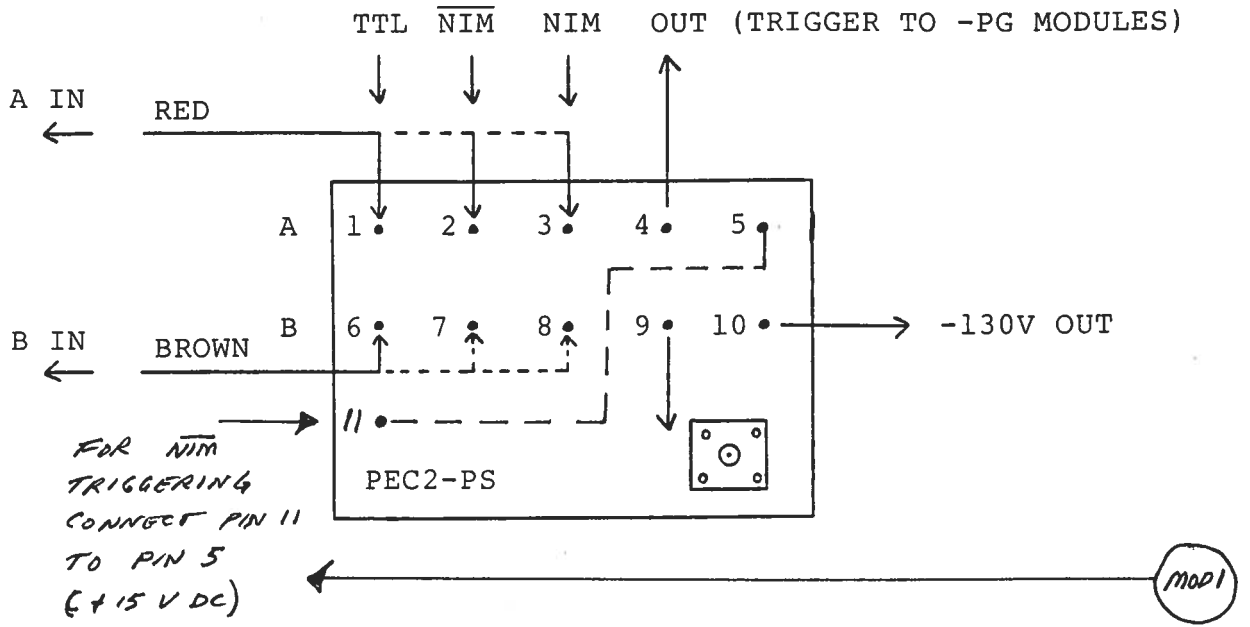
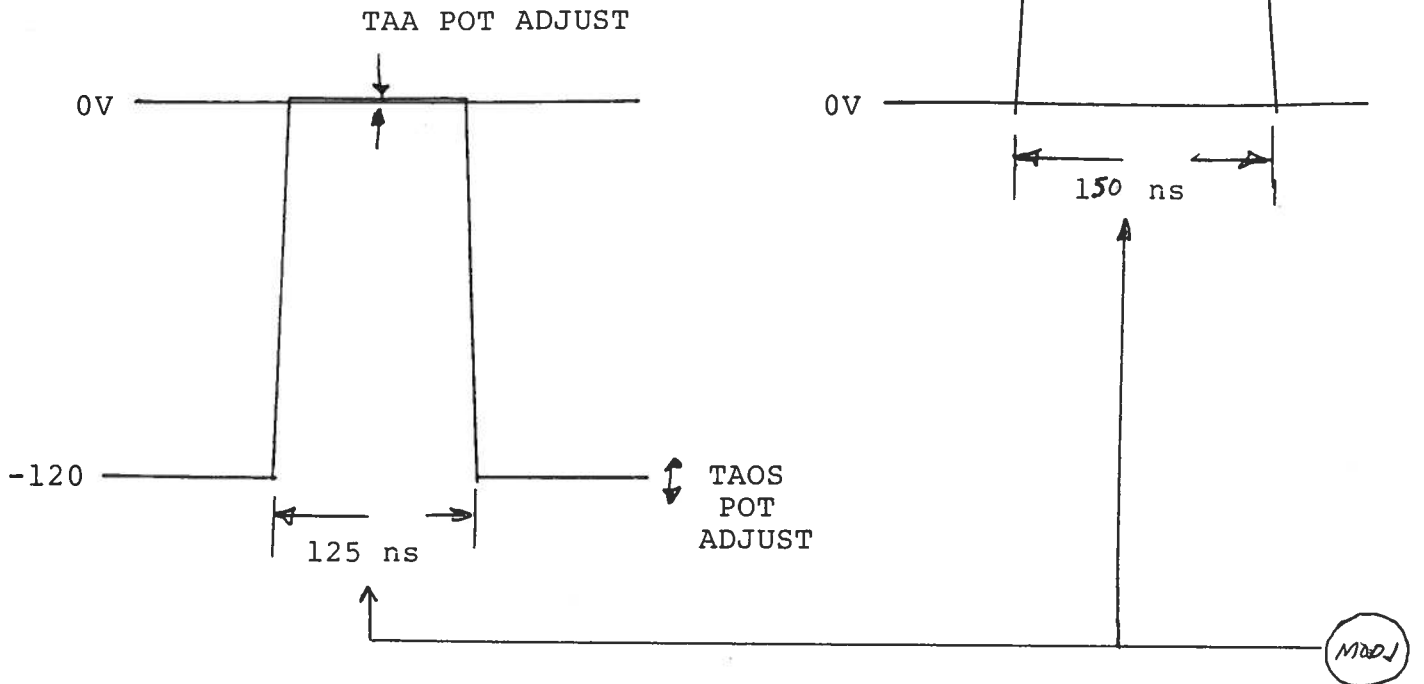
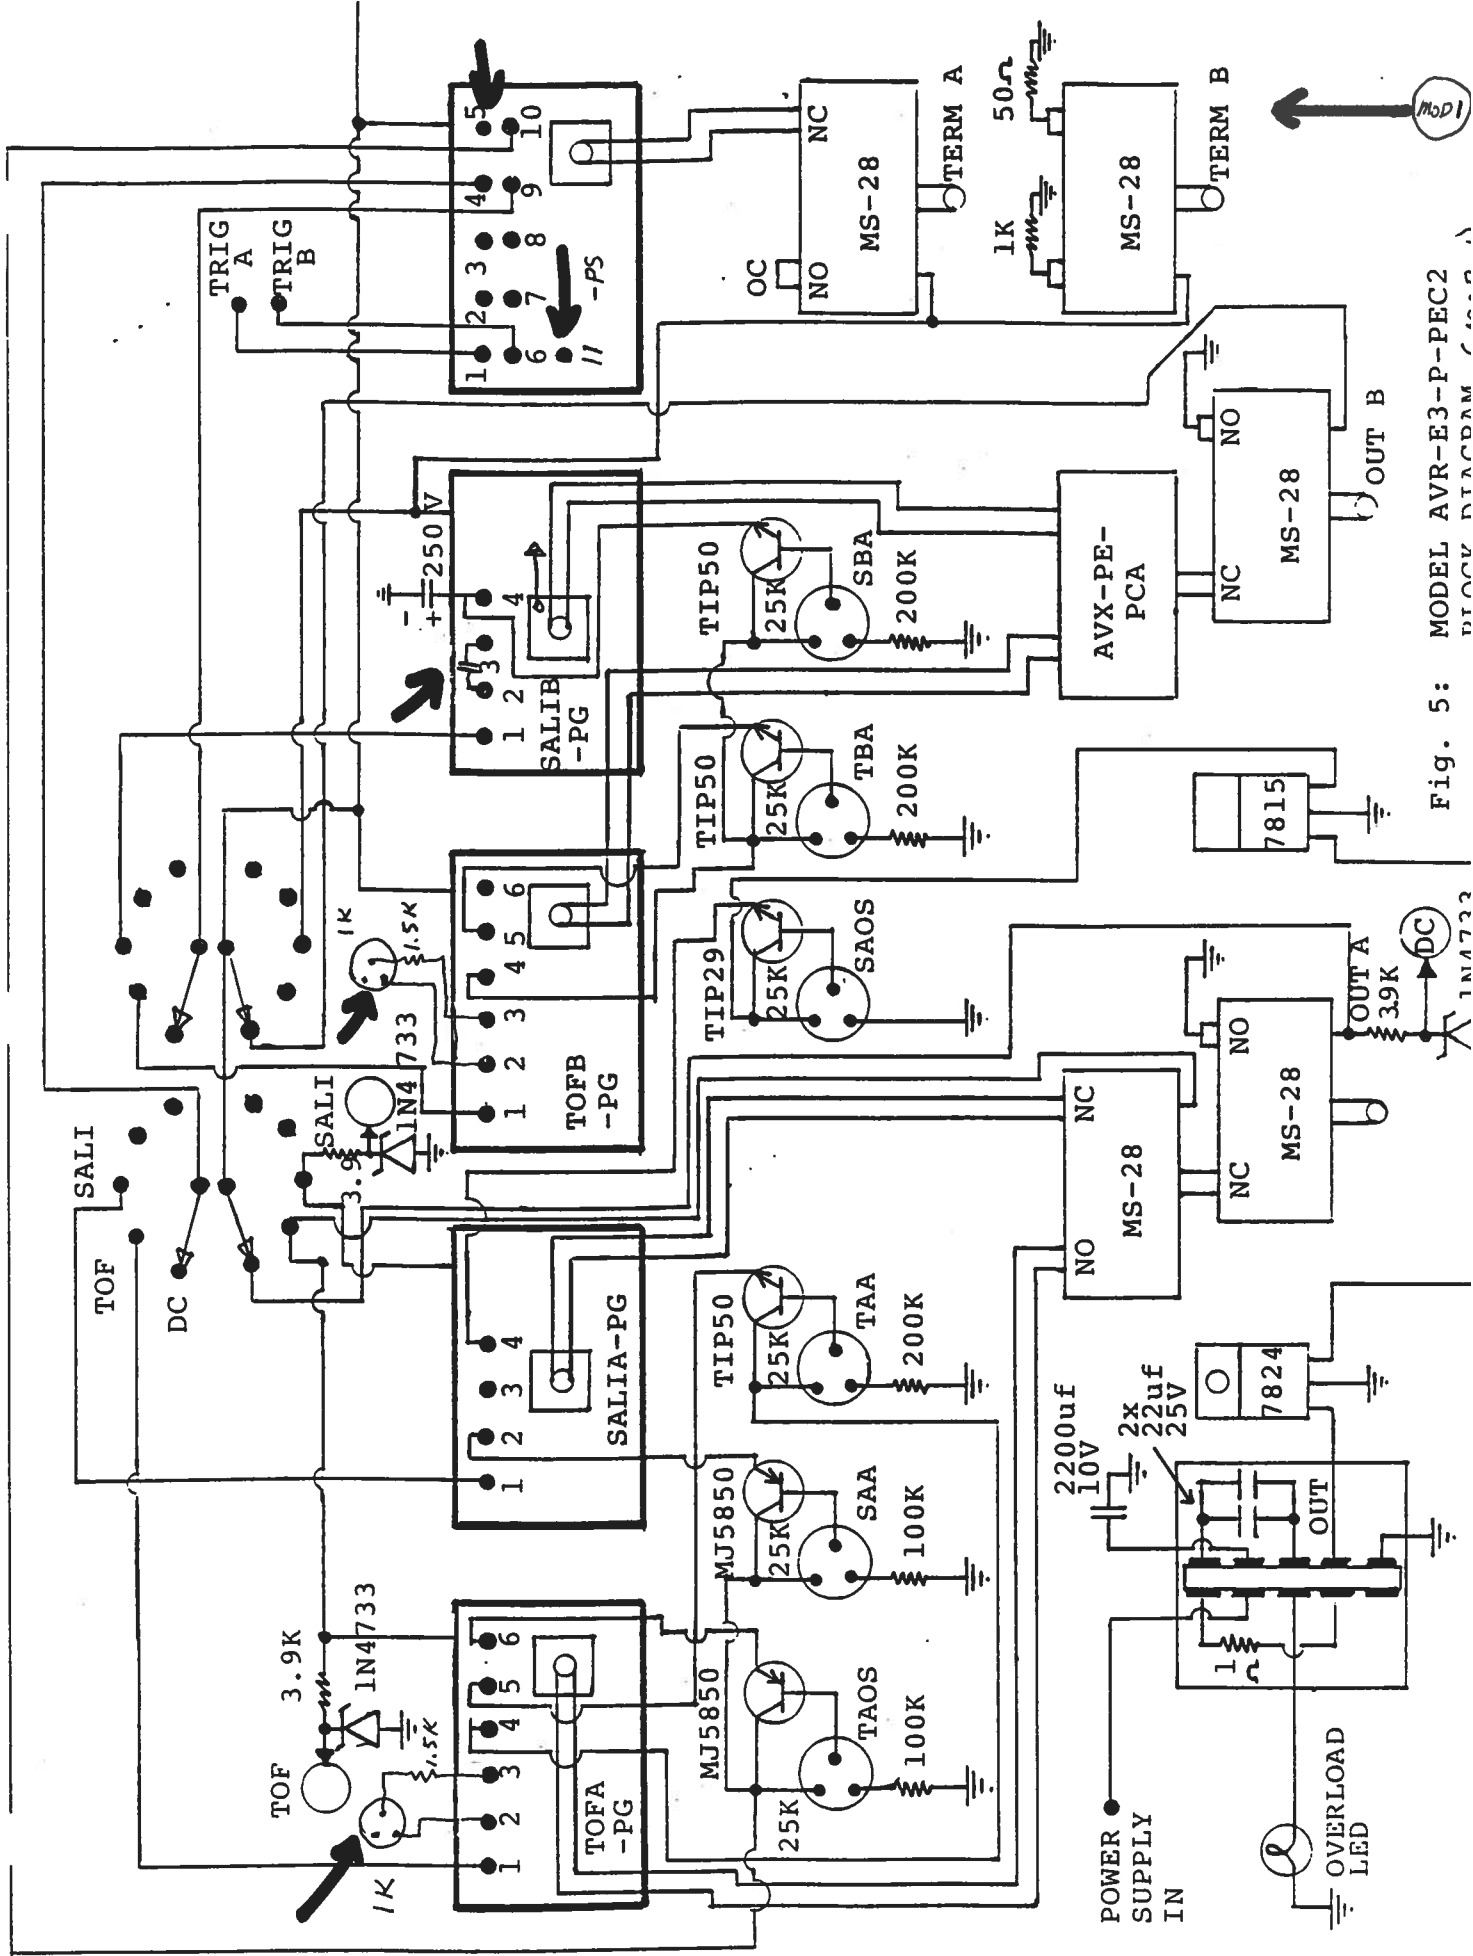
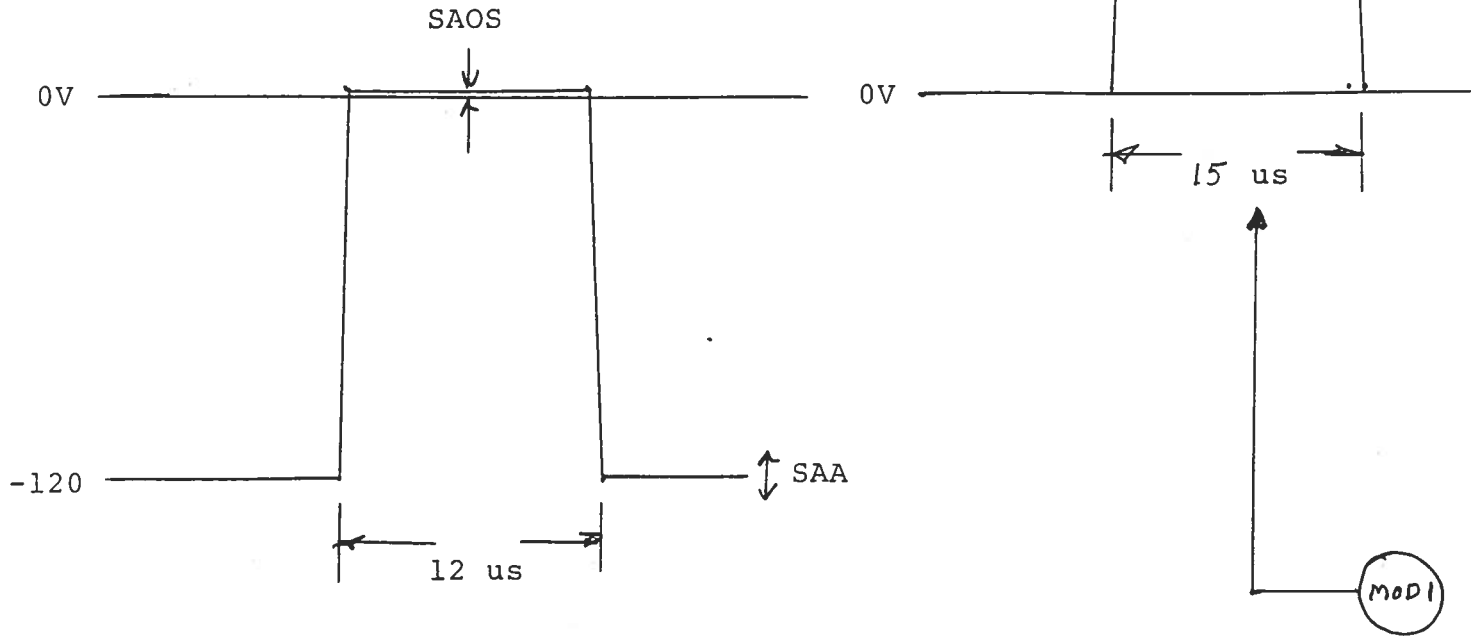

Fig. 3: PEC2-PS MODULE CONNECTIONS FOR TTL, $\overline{\text{NIM}}$ AND NIM TRIGGERING
Fig. 4
Fig. 5: MODEL AVR-E3-P-PEC2
Fig. 6
- 1) The arrangement shown in Fig. 1 may be used to check the basic waveforms using an oscilloscope. Note that at the time of shipping, the unit is wired to trigger from TTL input pulses (50 Ohm input impedance). To trigger from NIM or $\overline{\text{NIM}}$ inputs it is necessary to change the solder connections to the -PS module as shown in Fig. 3 (see Fig. 5 also).
- 4) With the front panel selector switch in the TOF position the OUT SMA connectors provide the waveforms shown in Fig. 4. The one turn TAA, TAOS and TBA locking pots (see Fig. 5) are accessible in the interior of the instrument to provide the amplitude adjustments shown in Fig. 4. CAUTION: Potentials as high as 140 Volts DC are employed and exposed in the interior of the instrument (see Fig. 5). The rear panel TOF banana connector is at a potential of +5 Volts (to $R_L > 1K$) when the instrument is operating in the TOF mode.
- 5) With the front panel selector switch in the SALI position, the OUT SMA connectors provide the waveforms shown in Fig. 6.
As with the TOF mode, the one turn SAA, SAOS or SBA locking pots (see Fig. 5) are provided in the interior of the instrument to achieve the amplitude adjustments shown in Fig. 6. The rear panel SALI banana connector provides +5 Volts (to $R_L > 1K$) when the instrument is operating in the SALI mode.
- (1) ON-OFF Switch. Applies prime power to all stages.
- (2) MODE Switch. 3 position switch controls nature of output signal at rear panel SMA OUT connector. In the DC position, the center conductor of the rear panel SMA OUT connector is fixed at ground potential by an internally controlled coaxial shorting switch. In the TOF position the OUT SMA connectors provide 125 ns wide 120 Volt pulses of the type shown in Fig. 4. When in the SALI position the rear panel outputs provide the 12 us wide 120 Volt outputs shown in Fig. 6.
- (3) OVERLOAD INDICATOR. AVR units with a serial number higher than 5600 are protected by an automatic overload protective circuit which controls the front panel overload light. If the unit is overloaded (by operating at an exceedingly high duty cycle or by operating into a short circuit), the protective circuit will turn the output of the instrument OFF and turn the indicator light ON. The light will stay ON (i.e. output OFF) for about 5 seconds after which the instrument will attempt to turn ON (i.e. light OFF) for about 1 second. If the overload condition persists, the instrument will turn OFF again (i.e. light ON) for another 5 seconds. If the overload condition has been removed, the instrument will turn on and resume normal operation. Overload conditions may be removed by:
- (1) FUSED CONNECTOR, VOLTAGE SELECTOR. The detachable power cord is connected at this point. In addition, the removable cord is adjusted to select the desired input operating voltage. The unit also contains the main power fuse (0.5 A SB).
- (2) 1.0A SB. Fuse which protects the output stage if the output duty cycle rating is exceeded.
- (3) PHILLIPS SCREWS. Remove 4 rear panel PHILLIPS screws to allow the removal of the top cover (slides back).
- (4) STATUS INDICATOR. Banana connectors provide +5 Volts (to $R_L > 1K$) depending on front panel MODE switch position.
- (5) TRIG. SMA connector to which 50 ns (or wider) TTL (or NIM or \overline{NIM}) pulse is applied. See paragraph 1, SECTION A. Input impedance is 50 Ohms.
- (6) OUT. SMA output connectors provide waveforms shown in Figs. 4 and 6, SECTION A.